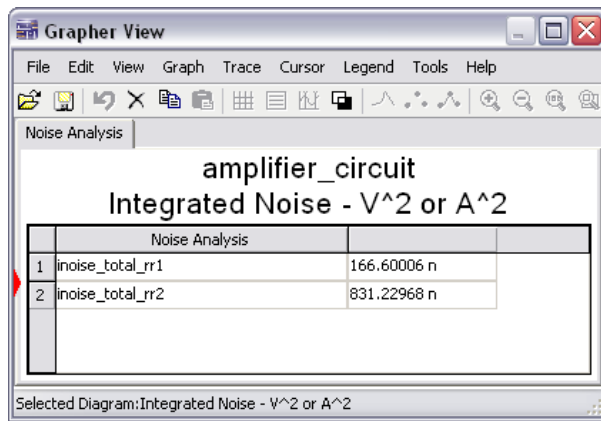

Figure 5. Noise Analysis results.
1. Click **Simulate**. The **Grapher View** opens and displays the noise contribution for each resistor (Figure 5).